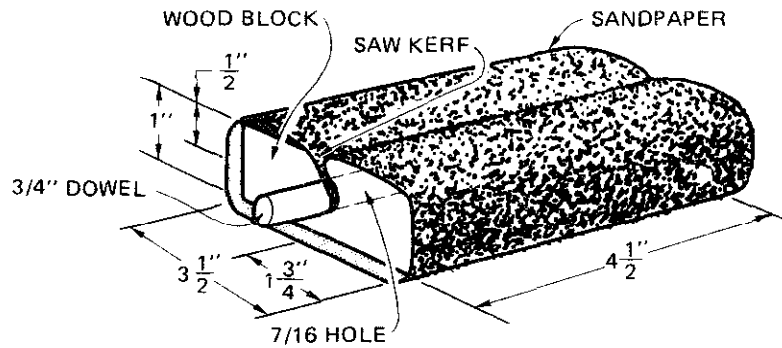

Fig. 14-8 Plan for making a sanding block.
2. Bore a 7/16-inch hole lengthwise through the block, figure 14-8.